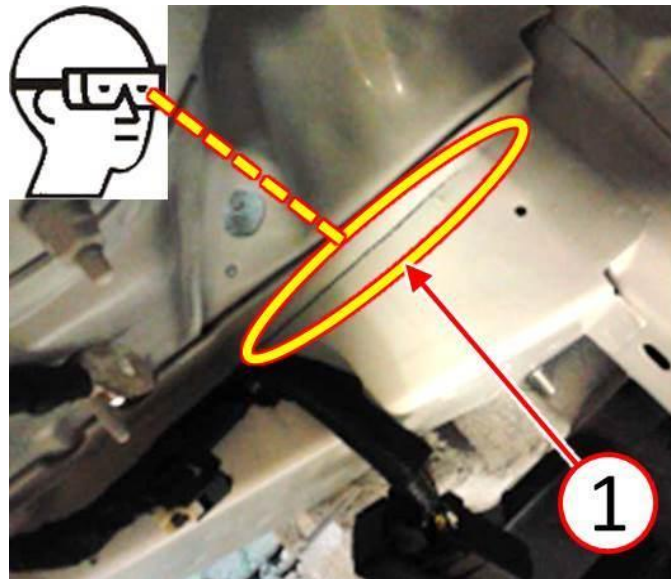

Fig. 2 Inspect Right Front Side Rail Inner Panel For Deformities
3. Inspect right front side rail inner panel for any cracks or splits (1) as shown in (Fig. 2).